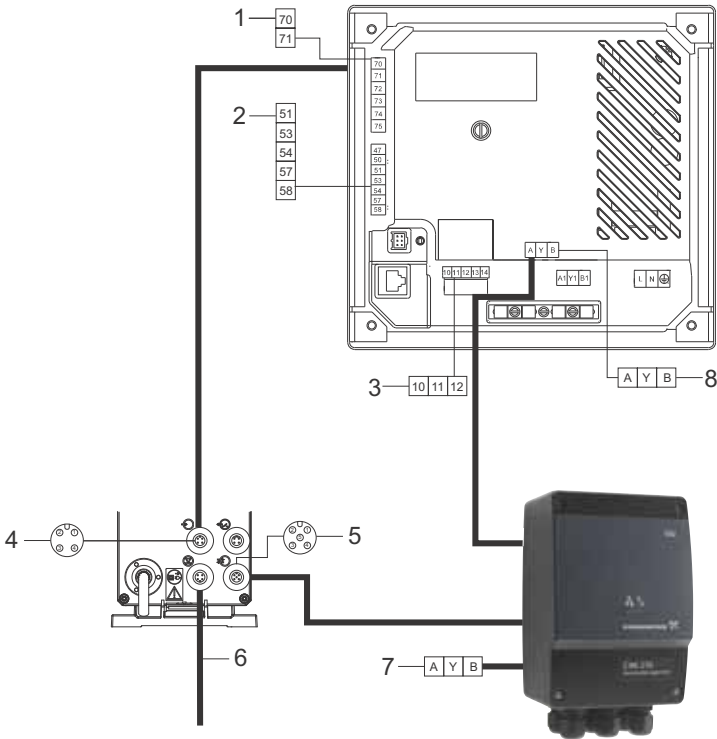

Fig. 4 Setup without pump control
8. Attach cables. See figs 4 and 5.